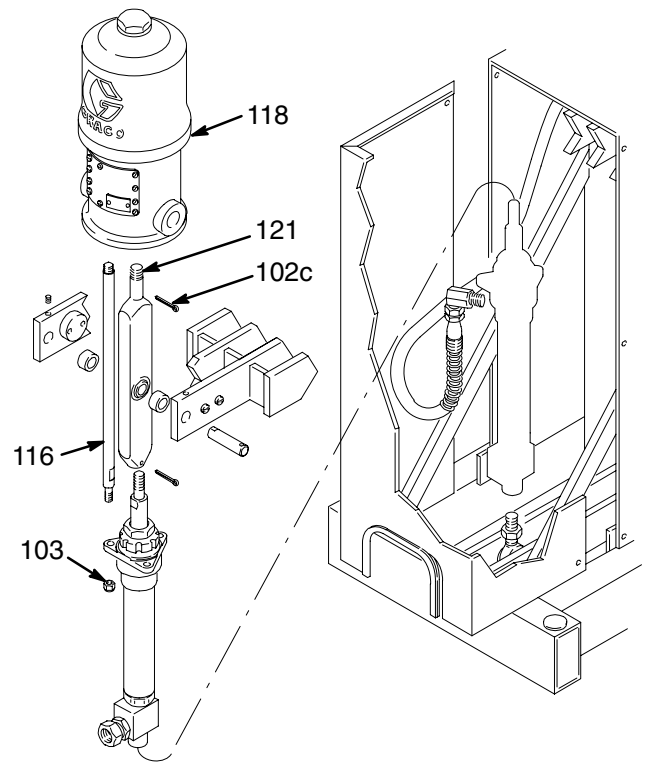

Fig. 15
NOTE: Refer to Fig. 15 for Steps 4 to 6.
4. Remove the three tie rod locknuts (103) and push up on the air motor (118) until the tie rods (116) clear the mounting holes of the displacement pump. See Fig. 15.
6. Remove the upper cotter pin (102c) and unscrew the air motor from the connecting rod (121).